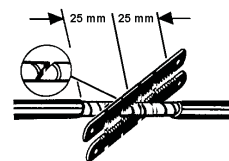

Figure 3
- Using a metal saw, saw into the cable approx. 1 mm at right angles to the profile and break off (Figure 3).